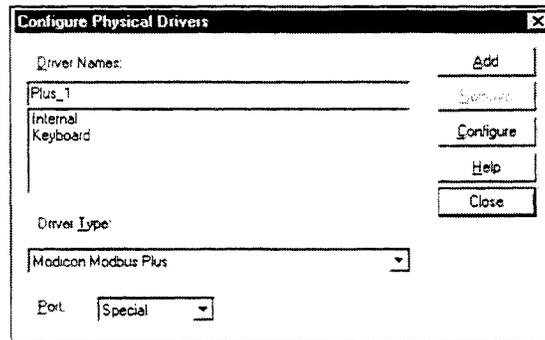

Figure 5. Configure Physical Drivers Dialog Box
2. Select the Drivers command on the Configure menu in the Application Navigator. The Configure Physical Drivers dialog box opens, as shown in Figure 5.